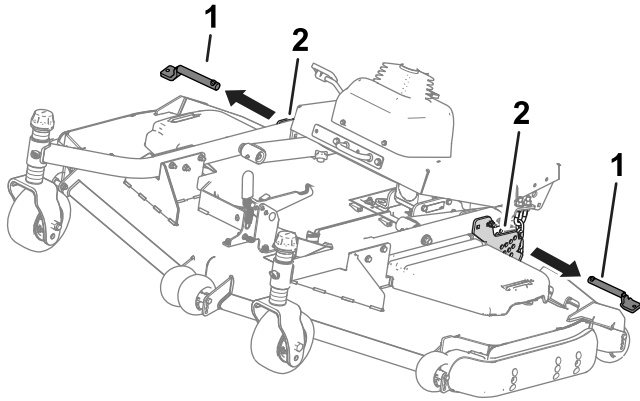

Figure 31
4. Remove the pins from the height-of-cut plates (Figure 31).